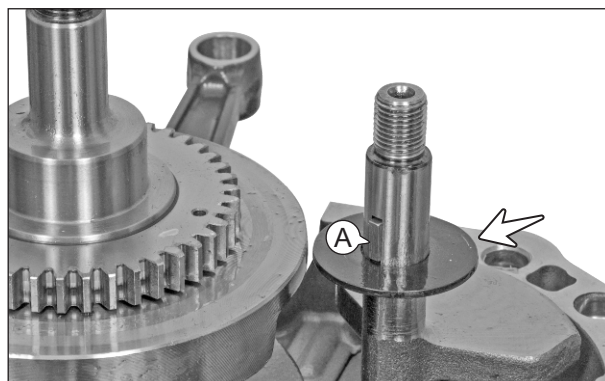

Fig. 3.179
- Assemble the retainer spring on the balancer shaft and secure it with the wood ruff key (A). (Fig. 3.179)